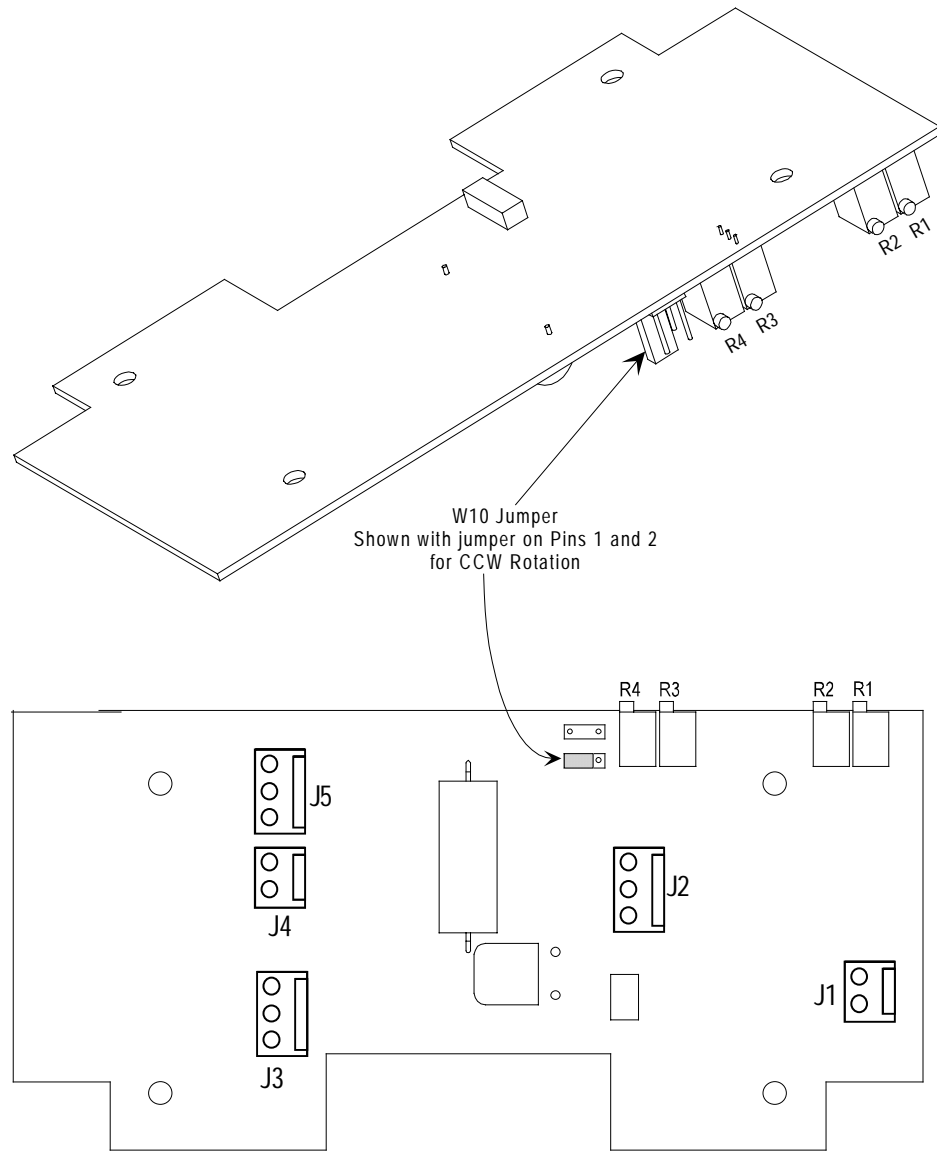

Figure 4-7 0/4-20 mA PWA Output Board
5. If the reading is incorrect, adjust R2 (see Figure 4-7) until the reading is in line.
9. Figure 4-7) until the reading comes into line.
15. Figure 4-7) until the reading is in line, and the actuator is at 0 %.
18. Figure 4-7) until the reading is in line, and actuator is at 100 % position.